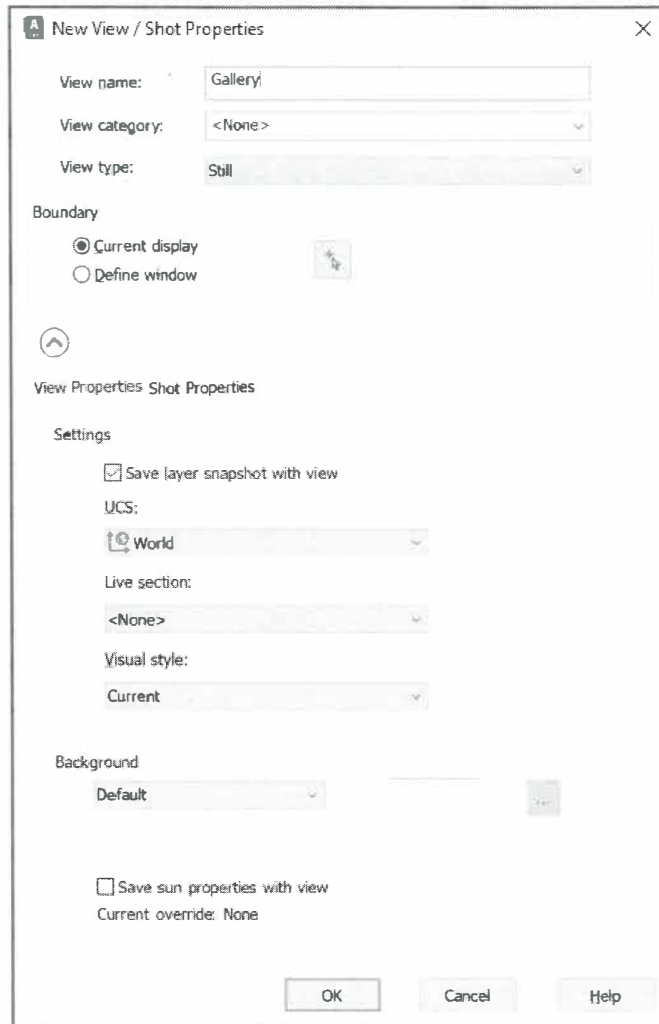

Figure 8-3
- In the New View / Shot Properties dialog box, type a name in the *View name:* field, as shown in Figure 8-3.